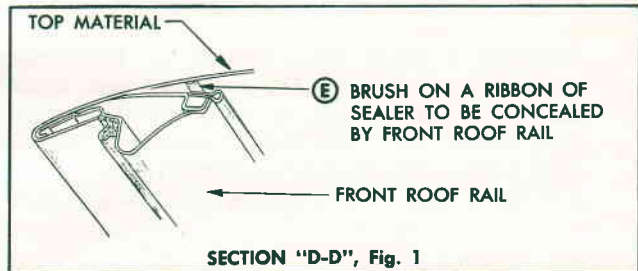

Fig. 7 Sealing Between Front Roof Rail and Top
7. Brush a ribbon of sealer between front roof rail and top material. See "E" in section "D-D", figure 7.